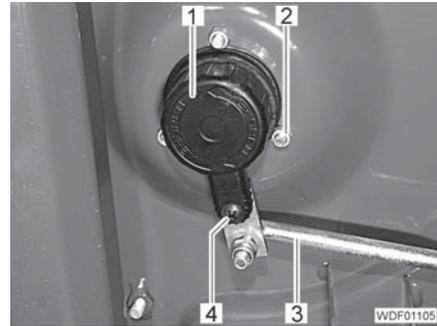

Fig. 386 Door stay attachment
- Unscrew the screw (Fig. 386,4).
- Unscrew the 3 nuts (Fig. 386,2).
- Remove the door stay (Fig. 386,1) outwards.
- Screw the 3 nuts (Fig. 386,2) onto the bolts and tighten.
- Insert the screw (Fig. 386,4) through the handle into the rod (Fig. 386,3) and tighten.